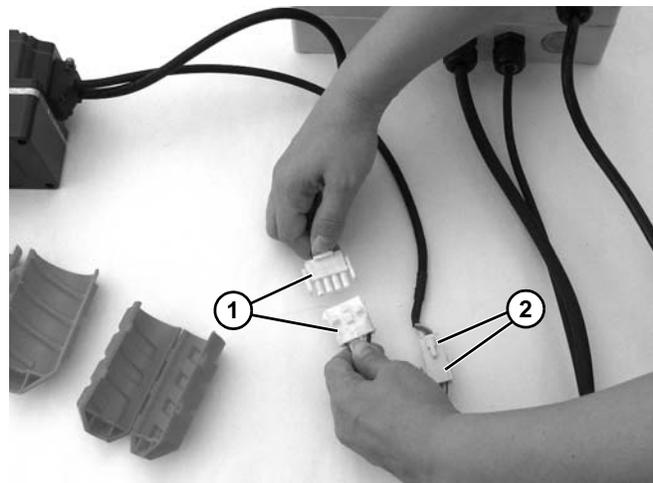

Figure 43
4. Unplug motor cord connectors (**Figure 43, item 1**) and signal cable connectors (**Figure 43, item 2**).